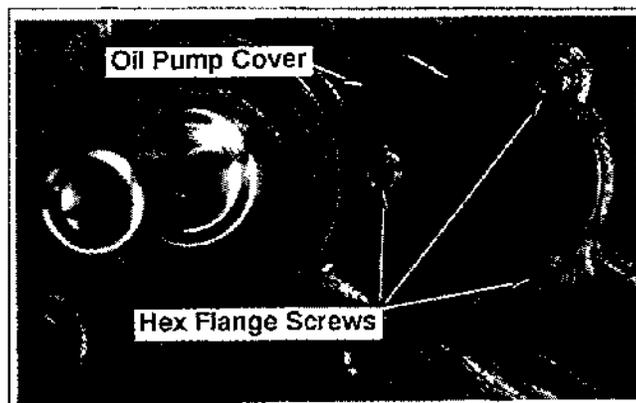

Figure 11-19. Installing Oil Pump Cover.
3. Install the oil pump cover (machined side towards O-ring). Secure with three hex flange screws. See Figure 11-19.